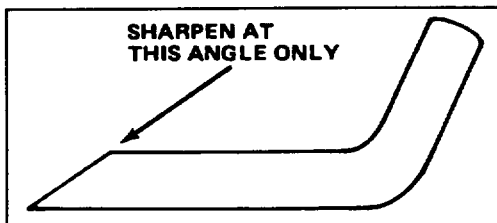

Figure 22
6. SHARPENING BLADE—Using a file, sharpen top side of blade and maintain original cutting angle (Fig. 22). The blade will remain balanced if same amount of material is removed from both cutting edges.